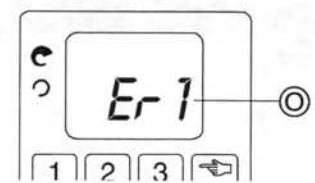

FIG. 6 ERROR
- [O]** ERROR SYMBOL - (Fig.6) When lit, indicates power base overload condition.